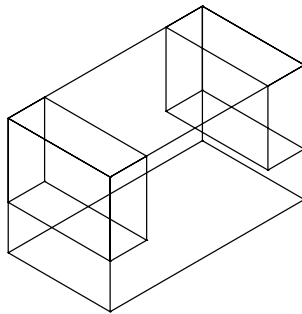

Figure 3-49 Boxes moved inside the bigger box using midpoints
11. By using the **Copy** tool and the **Vertex** option of the **3D Object Snap**, copy the new box to the other side of the box, refer to Figure 3-49.